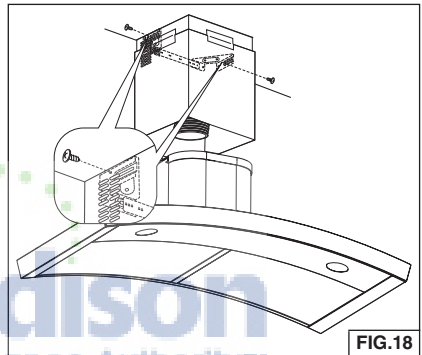

FIG.18
6. Lift the flue into position above the hood. Secure upper flue to the flue mounting bracket with (2) 3.9 x 6 mm screws. Fig. 18.